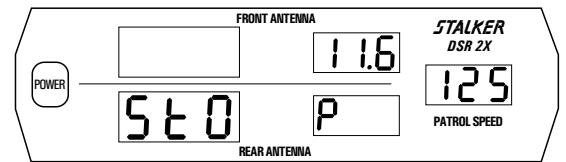

Fig. 33
4. The computed speed will be computed and shown in the patrol window. Fig. 33 is an example of a 402-meter measurement zone, an 11.6-second measurement interval, and a 125 km/h computed speed.